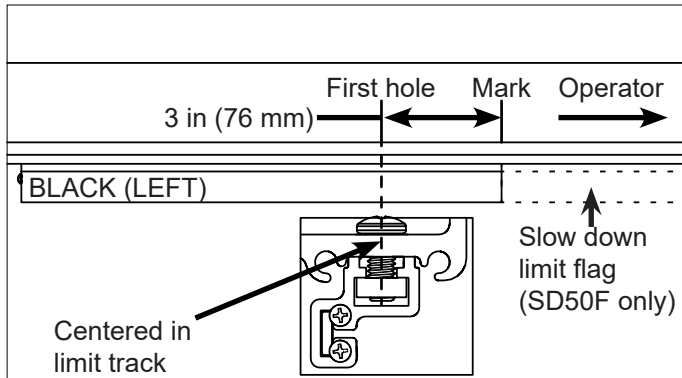
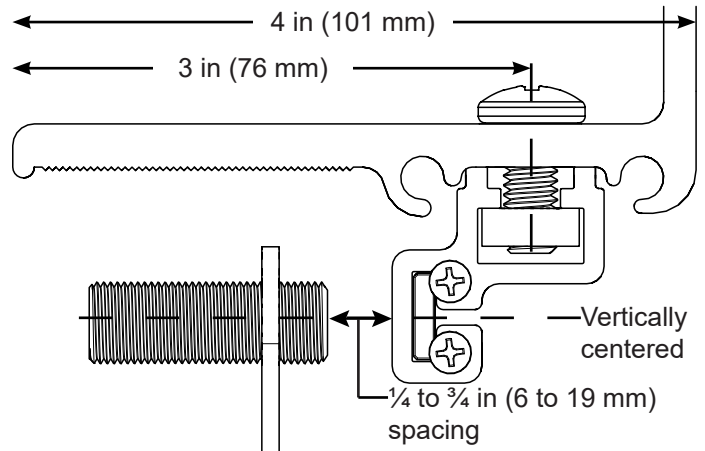

Figure 9. Drill First Limit Flag Hole (Left Limit)
Figure 11. Set Dual Limit Sensor Spacing
5. Drill one hole 3 in (76 mm) from mark away from the operator and approximately 3 in (76 mm) from the edge of the drive rail (Figure 9 and Figure 11).
9. Set dual limit sensor spacing: loosen the two nuts ( $1\frac{1}{16}$  in) on the dual limit sensor, adjust the spacing between the dual limit sensor and stop limit flag face to  $\frac{1}{4}$  to  $\frac{3}{4}$  in (6 to 19 mm), and tighten the nuts to hold this spacing (Figure 11).